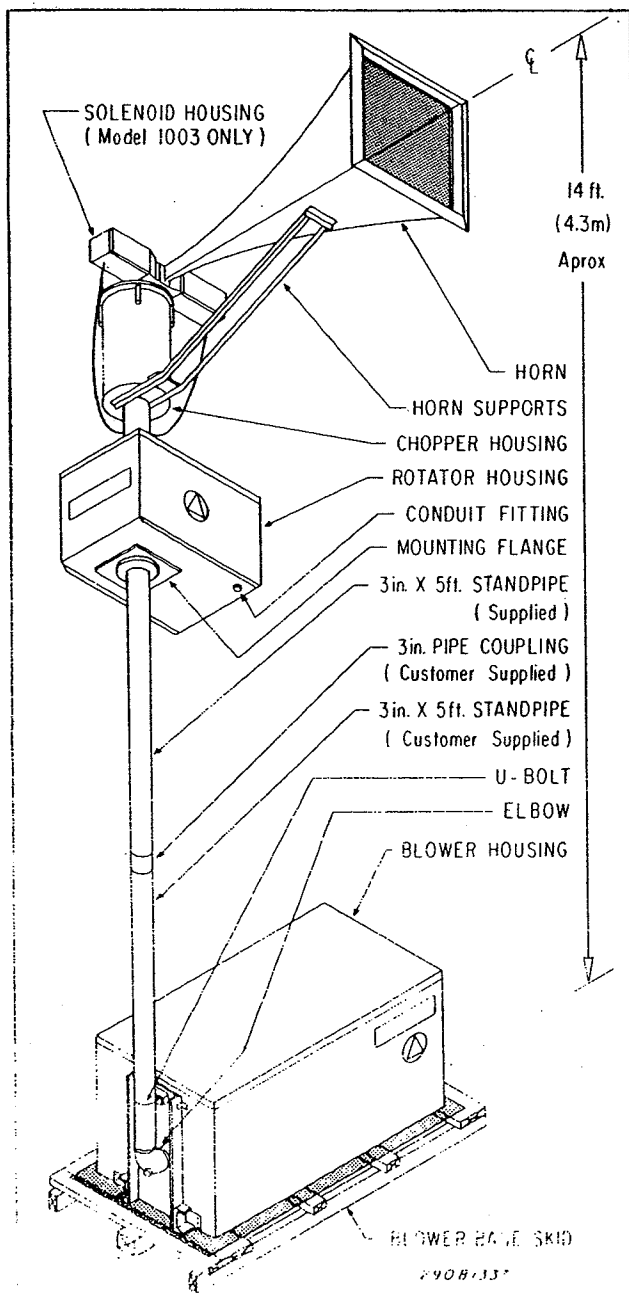
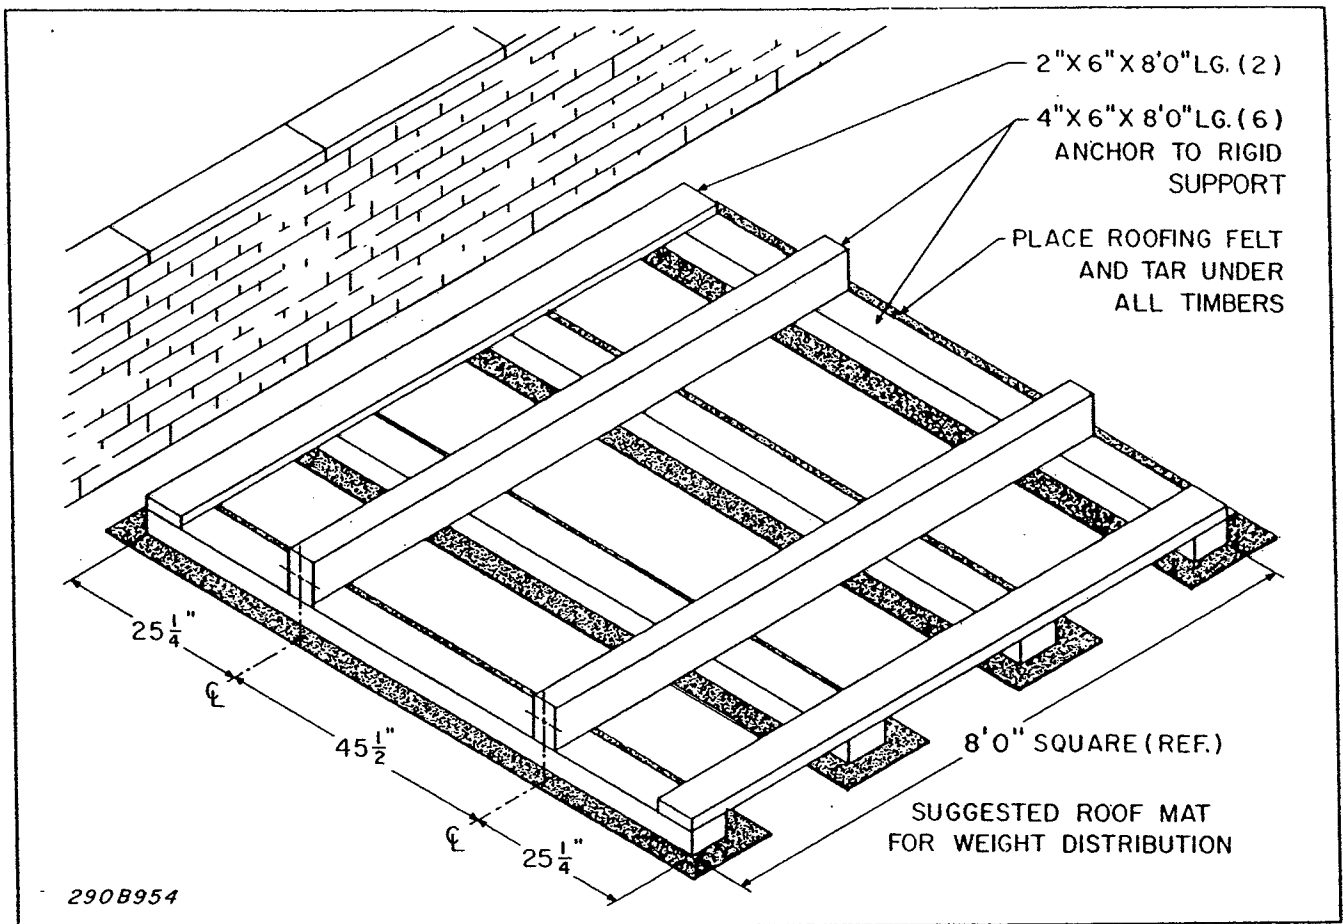
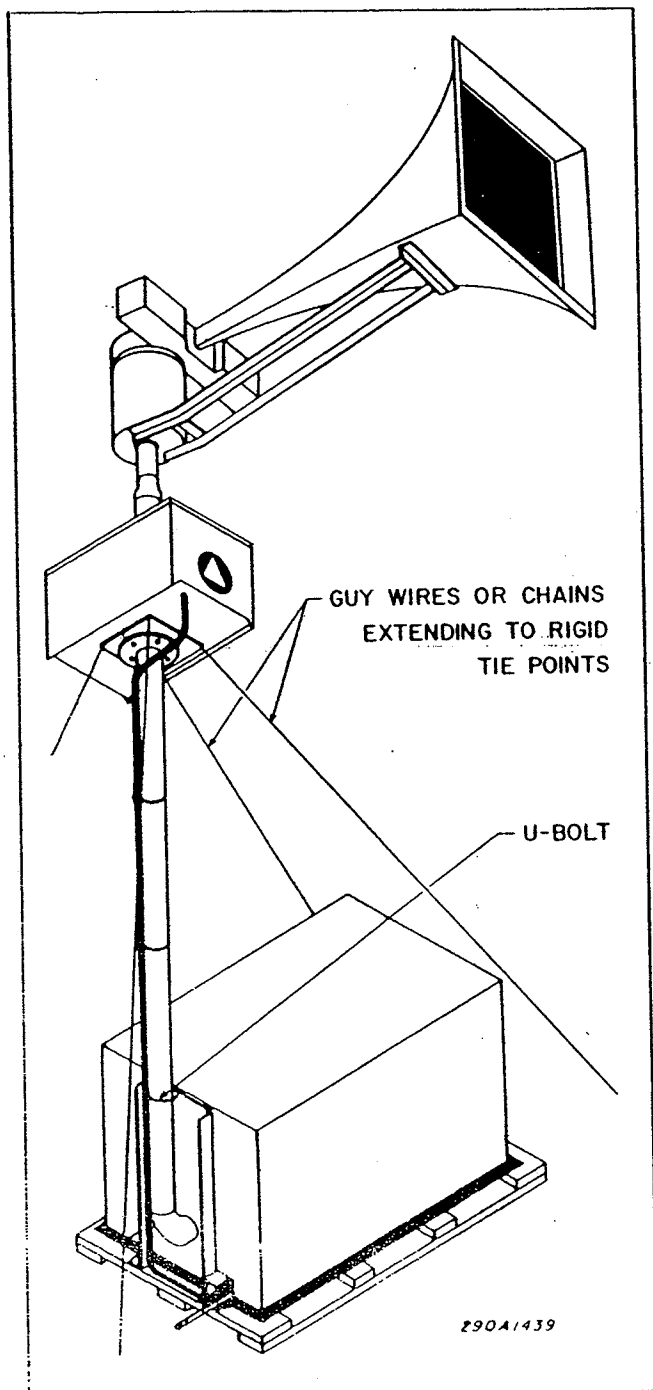

Figure 3-1. Basic Thunderbolt Installation.
Figure 3-2. Weight Distribution Mat Construction.
Figure 3-5. Guy Wire Installation.
A typical basic Thunderbolt installation is shown in figure 3-1. This installation uses an 8-½ foot (2.6 meter), 3-inch, Schedule 40, user-supplied standpipe, a user-supplied 3" coupling, and the 18" (45cm.) long standpipe adapter (supplied). When this 10 foot (3.05m) standpipe is installed, the centerline of the horn (C in figure 3-1) is approximately 14 feet (4.3 meters) above the mounting surface. Add additional 3-inch Schedule 40 pipe when more than 14 feet of horn elevation is required. If additional 3-inch Schedule 40 pipe is required to increase the standpipe length, always install the standpipe adapter at the end of the pipe closest to the Rotator and Chopper assemblies. When the standpipe is 10 feet (3.05m) or more in height, guy wires or chains are necessary to stabilize the Rotator and Chopper Assemblies (see figure 3-5.) An installation like the one shown in figure 3-1 is practical when the installation site is on a flat roofed building.
In the installation shown in figure 3-1, the siren is mounted on a weight distribution mat. This mat is required when the siren mounting surface is unable to support weights in excess of 68 pounds per square foot (421 kg. per square meter). Therefore, if the mounting surface cannot support more than 68 pounds per square foot (421 kg. per sq. m.), construct the weight distribution mat shown in figure 3-2. This mat distributes the siren weight to approximately 14 pounds per square foot (68 kg per square meter).
To install the siren as shown in figure 3-1, proceed as follows:
1. If necessary, construct the weight distribution mat shown in figure 3-2. Locate the mat at the installation site.
(j) If the standpipe is 10 feet (3.05m), or more, in length, install guy wires or chains, as indicated in figure 3-5.